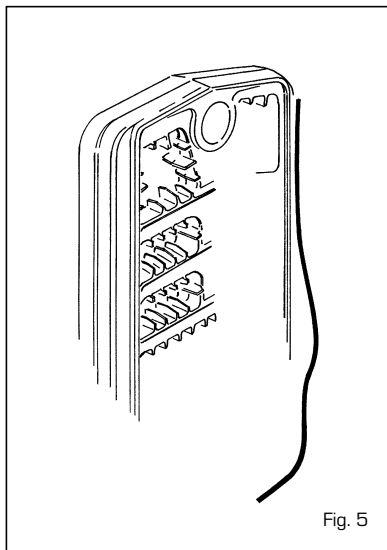

Fig. 5
- insert the bead of putty (fig. 5) in the groove provided for fume tightness, pressing lightly;